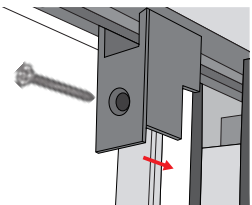

Figure 32: Installing the front side track guide
Step 9 - Screw the front side track guide in place to install as shown in Figure 32.